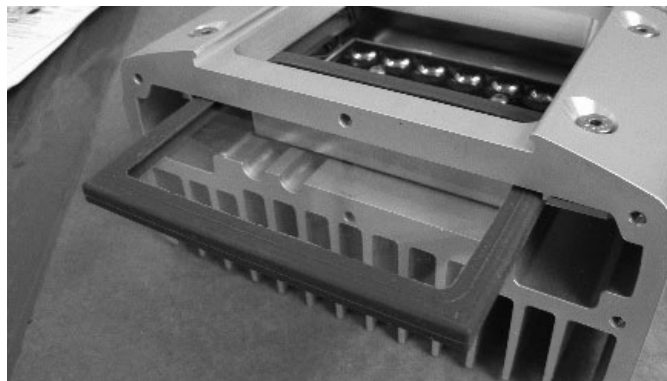

Fig: 5
i) Follow steps i to iii from 'LED Board Replacement', ii) Disconnect terminal block from cable assembly and using a spanner, remove the cable gland locknut and remove the cable gland from the bottom plate. iii) Disconnect the cable from the terminal block, tilt the battery enclosure top-plate to expose the cable gland locknut, If necessary, disconnect the switch and indicator, lift the circuit block from the enclosure if necessary. iv) Remove the locknut, and completely remove the cable assembly from the Worklite, v) Fitting is the reverse of the above, fit the cable gland in to enclosure lid and lamp head bottom plate ensuring that the gland seal is external and the shakeproof washer and locknuts are internal. vi) Connect the new cable to the head connector block; No.1 to Red, No.2 to Black, see fig 5 and re install the LED board, lens clamp plate and bottom plate as per the instructions above. vii) In the battery enclosure; connect the wires in to the connector block No.1 (brown) to White, No.2 (blue) to Black viii) Re-connect any disconnected switch or indicator cables and replace the circuit block if necessary. When all wire connections are checked and the head has been re-assembled, the battery can now be connected and the enclosure lid replaced [ensuring no cables are snagged, or obstructing the sealing edge when the lid is in position].